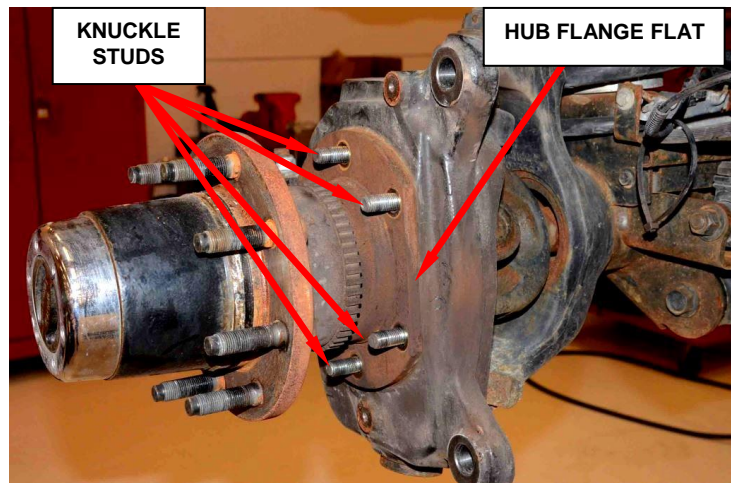

Figure 13 – Hub Flange
25. Insert the axle shaft through the **NEW** axle knuckle into the axle assembly ensuring the spindle is fully seated onto the **NEW** knuckle studs, and the hub flange flat is facing the rear of vehicle; wipe any lube residue off from the axle housing (Figure 13).